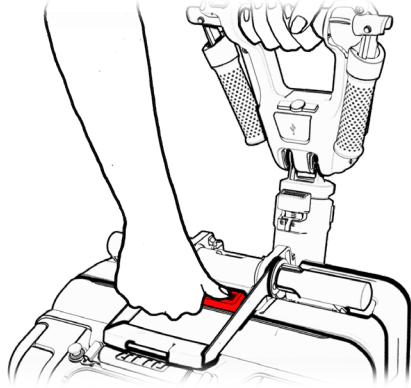

Figure 5
3. Press the central release button until it clicks and remains pressed (see Figure 5).